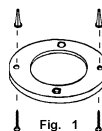
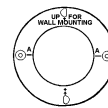

Fig. 1
Fig. 2
3. After selecting the proper smoke alarm location as described in Section 1, attach the mounting plate to the ceiling as shown in Figure 1. For wall mounting see Figure 2. Place mounting plate on the wall. Be sure the "UP FOR WALL MOUNTING" text and arrow are facing up. Use the screws and anchors provided to secure the mounting plate (use 3/16" drill bit for anchor holes).
To replace the battery, remove the alarm from the mounting plate by rotating the alarm in the direction of the "OFF" arrow on the cover (see Section 3, Figure 1).